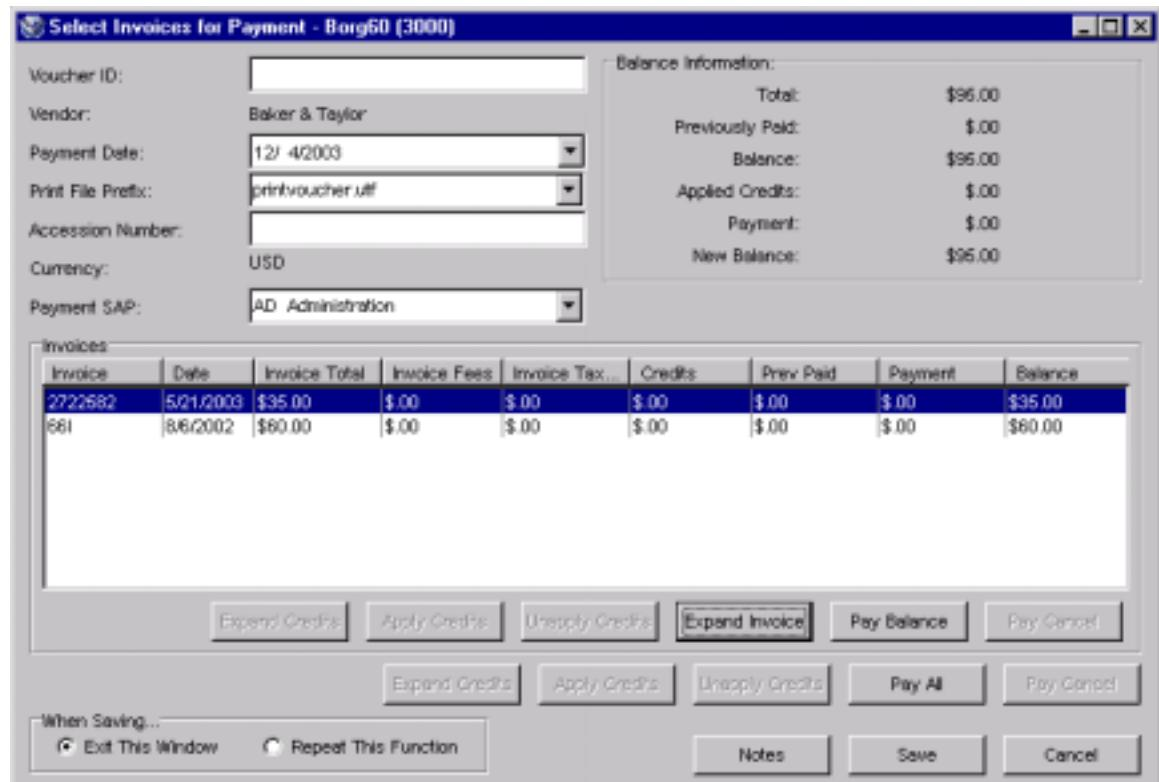

Figure 8-7. Select Invoices for Payment Window
b) Click the Expand Invoice button (*Figure 8-7*).
1. On the Select Invoices for Payment window (*Figure 8-7*), select the invoice you want to expand.